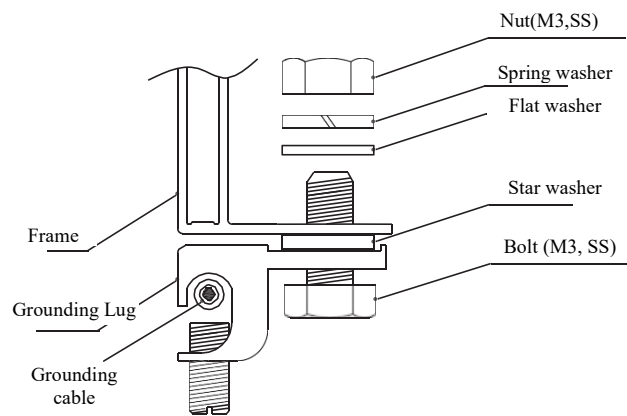

Figure 8
- First, peel the grounding cable to a proper length without damage to the metal core. Then insert the peeled cable into the lug, tighten the screw. As shown in Figure 8, connect the lug to the aluminum frame with stainless steel bolts and connection components. The recommended tightening torque for M3 bolts is 2.3N•m.